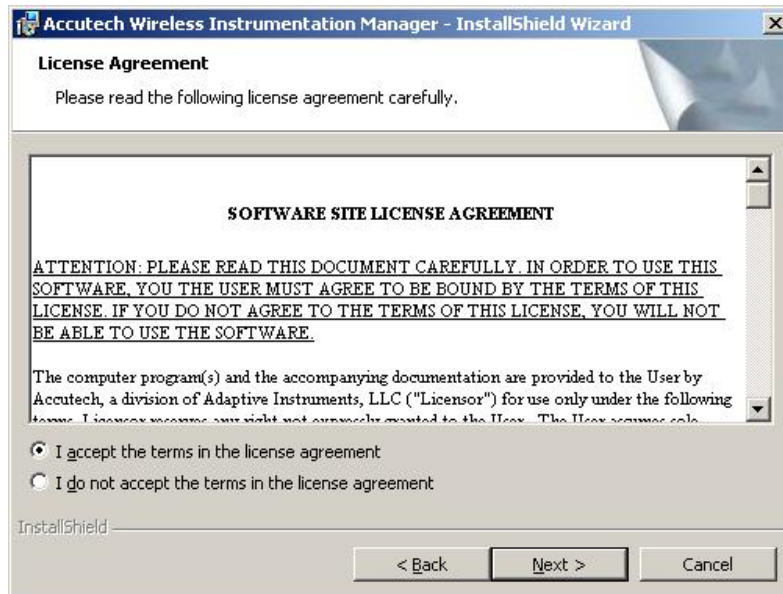

Figure 3-2: Software User Agreement Screen
- [4] The following screen, shown in Figure 3-2, requires you to accept the license agreement.